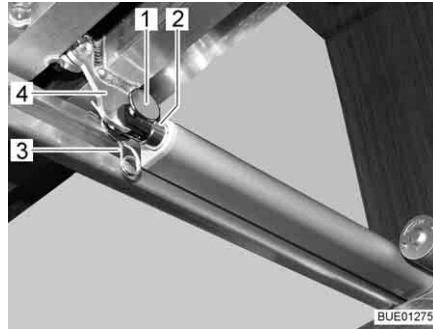

Fig. 116 Drive
- Remove the connection (e.g. pin and cotter pin (Fig. 116,1 and 3)) between the push rod (Fig. 116,2) and the slatted frame (Fig. 116,4).